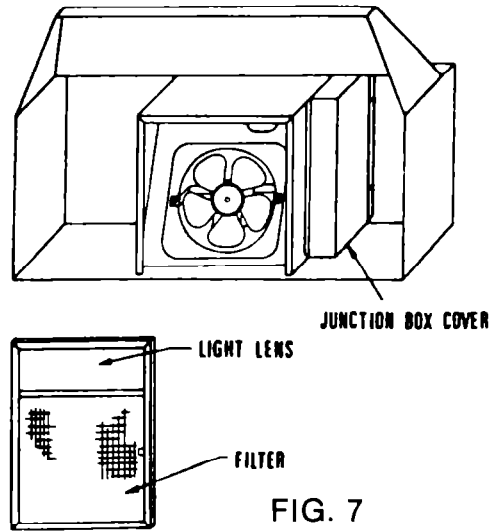

FIG. 7
4. Remove the screws holding the junction box cover (See Figure 7).